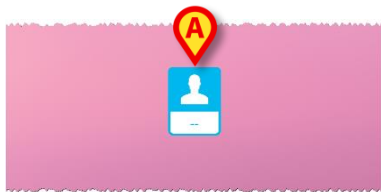
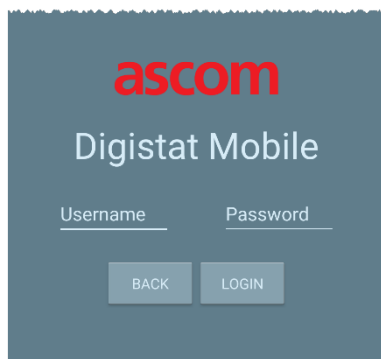
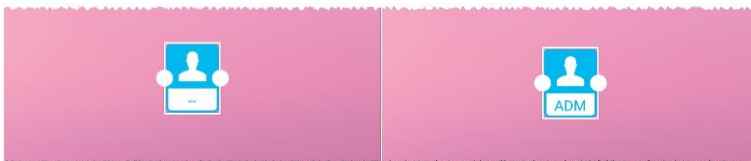

Fig 204
Fig 205
Fig 207
The Login Widget as default will be placed on the device screen with size 1 x 1 (Fig 204)
- Push the icon in Fig 204 **A** to authenticate in the Product (Fig 205).
- Long press the icon in Fig 204 **A** or Fig 206 **A** and then release to show grab points for widget resize (Fig 207 – left if user is not logged, right if user is logged):